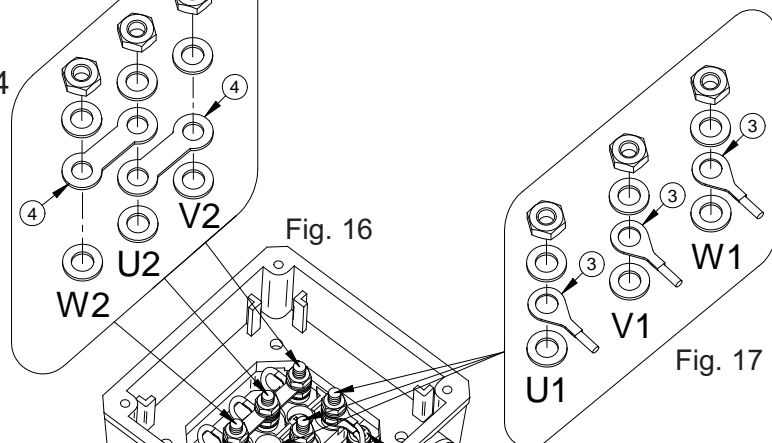

Fig. 16
- Ensure any unused cable gland entry points are correctly sealed with the factory fitted plugs provided Fig. 16 (item 2).
1. The cable gland assembly Fig. 16 (item 1) must be sourced, supplied and fitted by the installer. The gland must be suitable for the cable selected and must provide the necessary protection against ingress of solid objects and moisture as well as providing cable retention.
4. Route cable as shown in Fig. 16 (or as appropriate if box re-positioned).
7. Confirm cable routing is as shown in Fig. 16 (or as appropriate if box re-positioned) and secure terminal box lid.